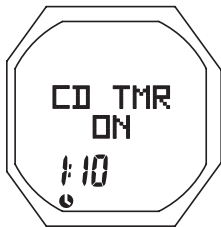

Fig. 136 - FREE DIVE ALT 1
**FREE Dive Alt 1**, information includes (Fig. 136) -